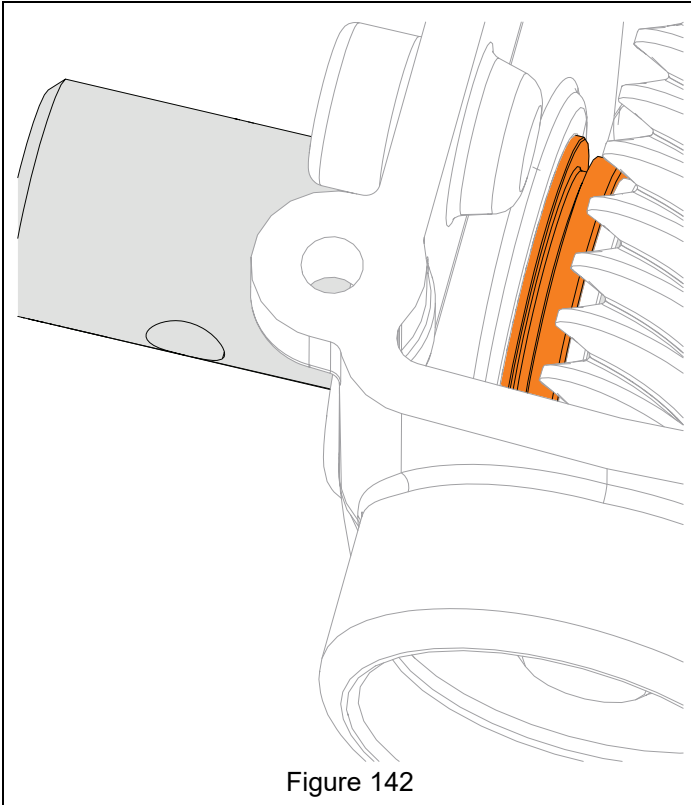

Figure 142
15. With a driver, such as a 1 1/4" deep-well socket, drive bushing into gearcase until groove is just beyond interior gearcase wall. See Figure 142.